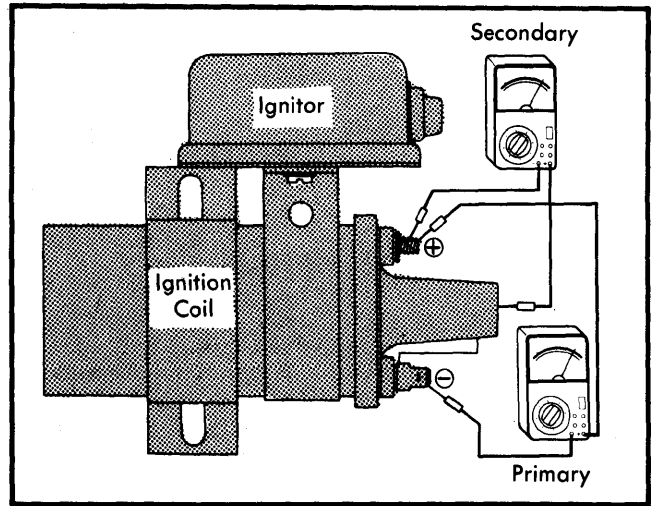

Fig. 4 Ohmmeter Hookup for Ignition Coil Primary & Secondary Resistance Test
1) Turn ignition switch "OFF". Set an ohmmeter in the low scale and attach its leads to the coil positive and negative terminals. Coil should be isolated from rest of system. Check primary resistance reading. Replace coil if not to specifications. See Fig. 4.